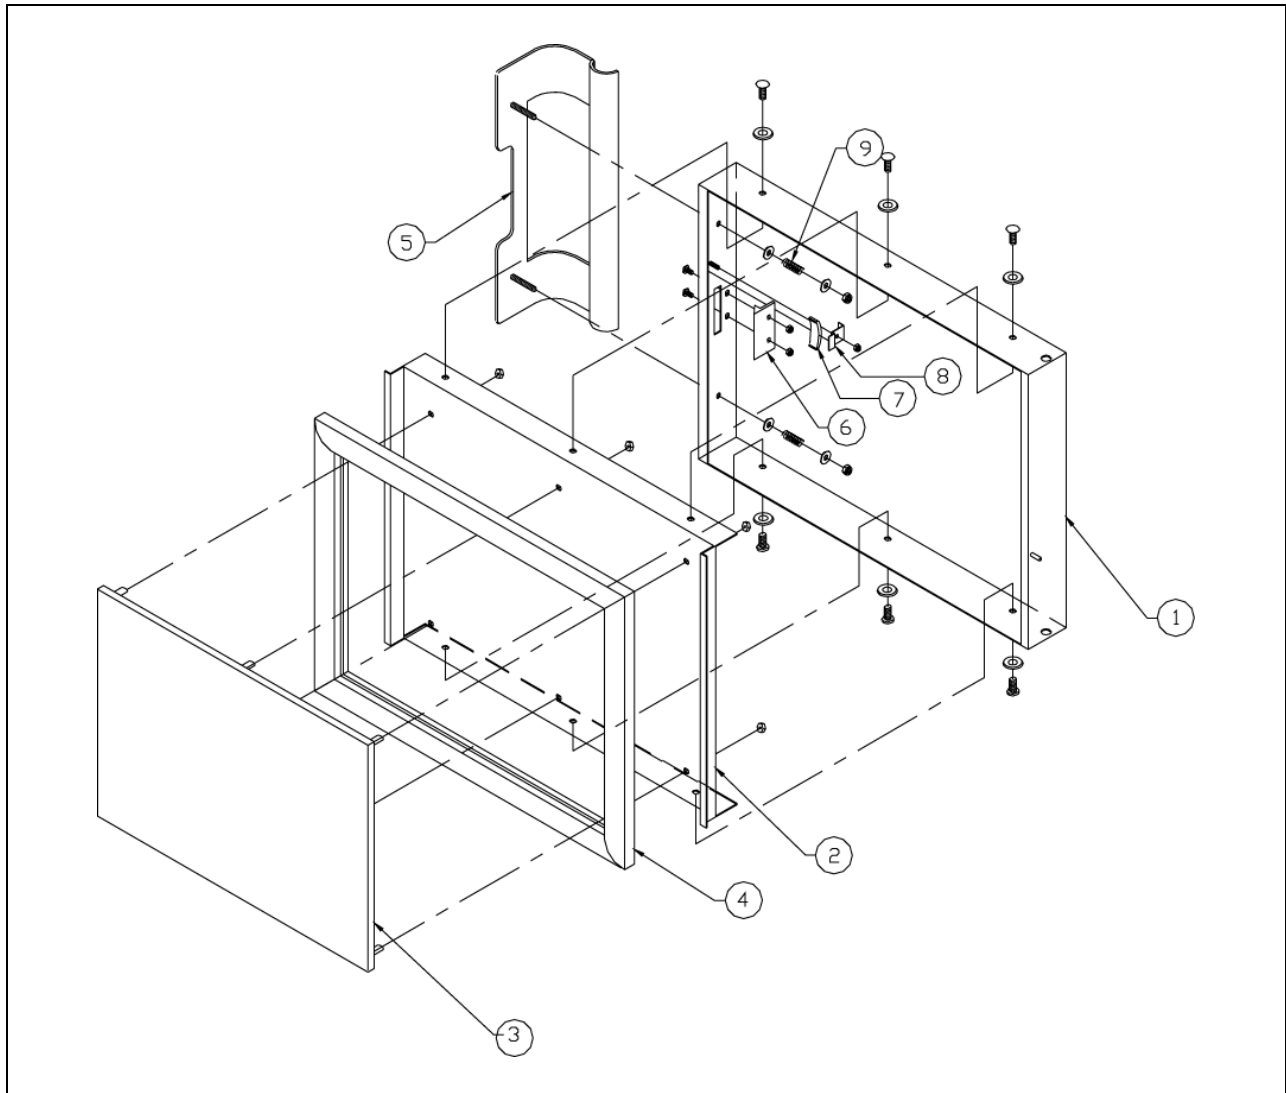

Figure 9, Door Assembly
5. Install the new door gasket (*see Figure 9 on page 31 for part number*) to the mounting plate.